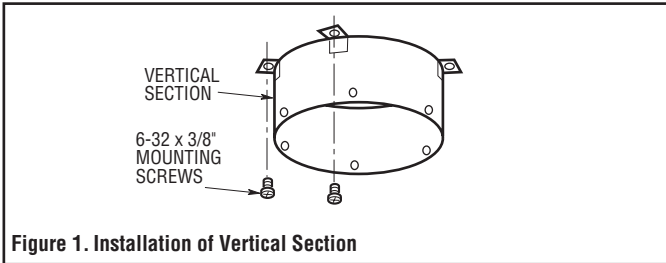

Figure 1. Installation of Vertical Section
4. Secure vertical section with four No. 6-32 x 3/8" (9.5mm) mounting screws (supplied) as shown in Figure 1.